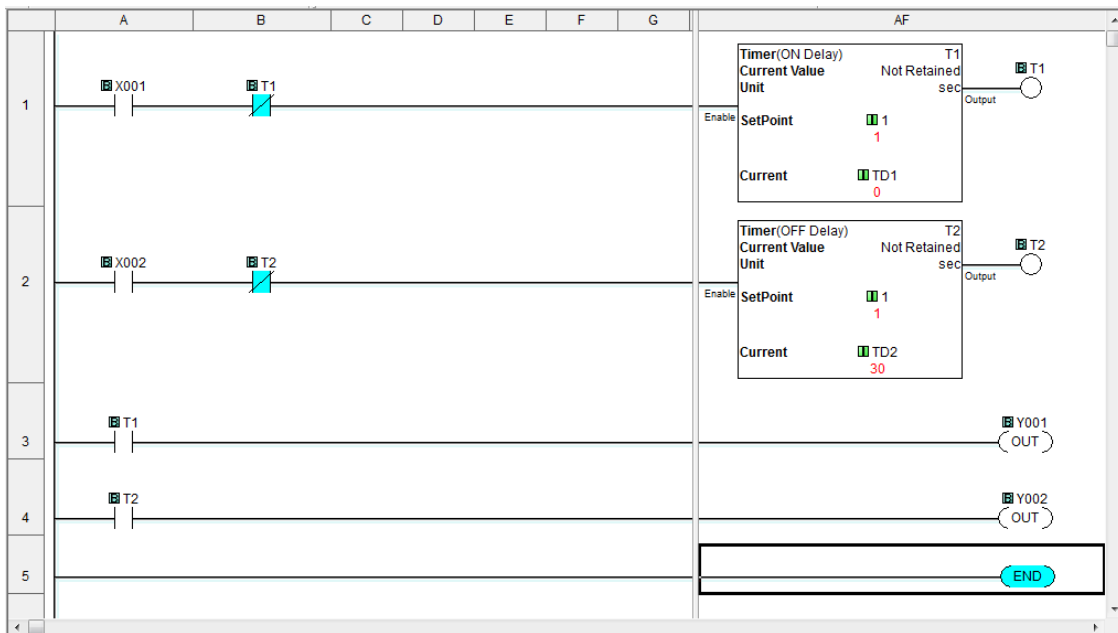

Figure 7.17: On and Off Delay Timers
- 32. Add a N.C. contact T1 in Rung 1 Column B, and a N.C. contact T2 in Rung 2 Column B. Your program should look as shown in Figure 7.17